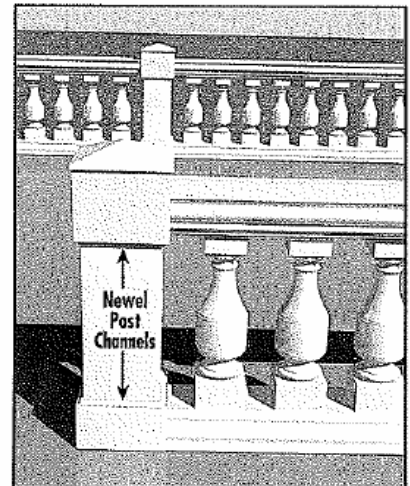

Fig. 7D
- G) Apply caulk to seam in channels of NEWEL POST assembly to prevent moisture infiltration (Fig. 7D).
- H) Apply a  $\frac{1}{4}$ " bead of urethane base adhesive to NEWEL POST TOP SECTION, and then install NEWEL POST TOP (Fig. 7D).